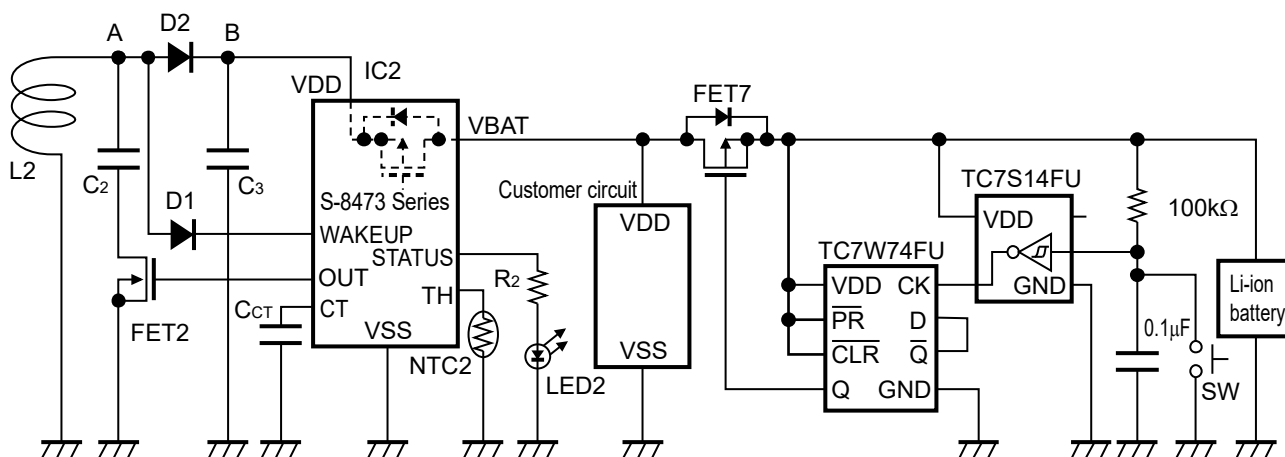

Figure 40 External Power Supply Switch Usage Example 1
Figure 40 shows a circuit example when a power supply switch (SW) is provided separate from the customer circuit.